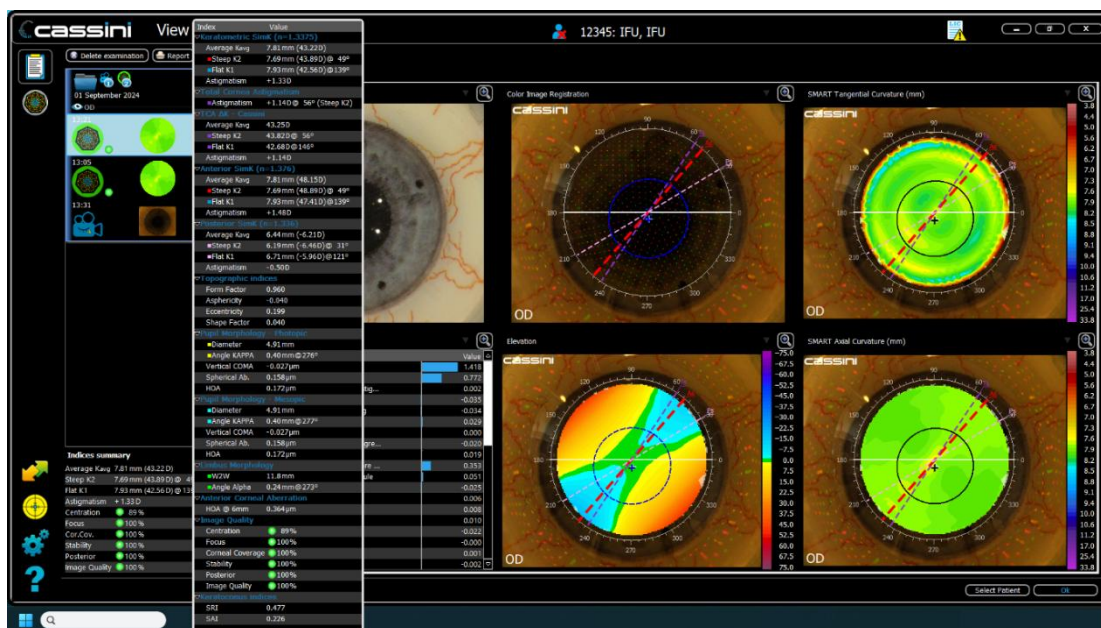

Figure 43: View examination results - SMART
6. Click accept with the mouse or use the joystick to confirm the measurement. The results are displayed as shown in Figure 43